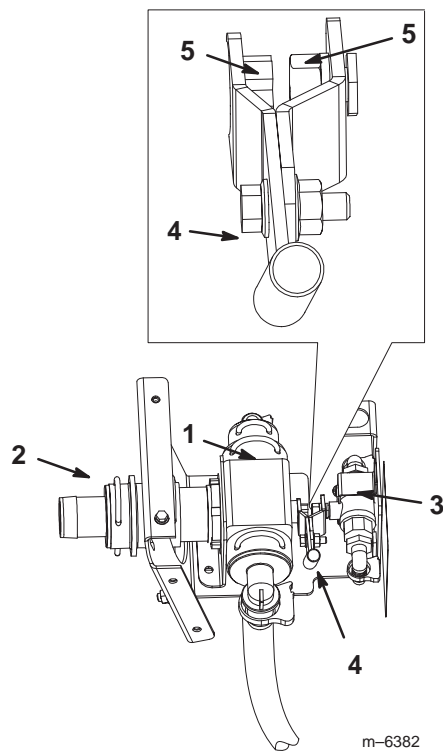

Figure 14
3. Remove the barbed fitting and retainer from the control valve assembly (Fig. 14).
2. Connect the end of the lever assembly on the small ball valve assembly to the control valve assembly (Fig. 14).
4. Install the control valve assembly onto the control box mounting bracket (Fig. 14) using 2 flange-head bolts (1/4 x 3/4 inch) but do not tighten the fasteners.
5. Install the small ball valve assembly to the control box mounting bracket (Fig. 14) using 2 flange-head bolts (1/4 x 3/4 inch) and 2 flange nuts (1/4 inch) but do not tighten the fasteners.
6. Align the axis of the levers on each valve and the valves (Fig. 14) You may need to loosen the hose clamps securing the flow meter to the machine to get everything to fit well.